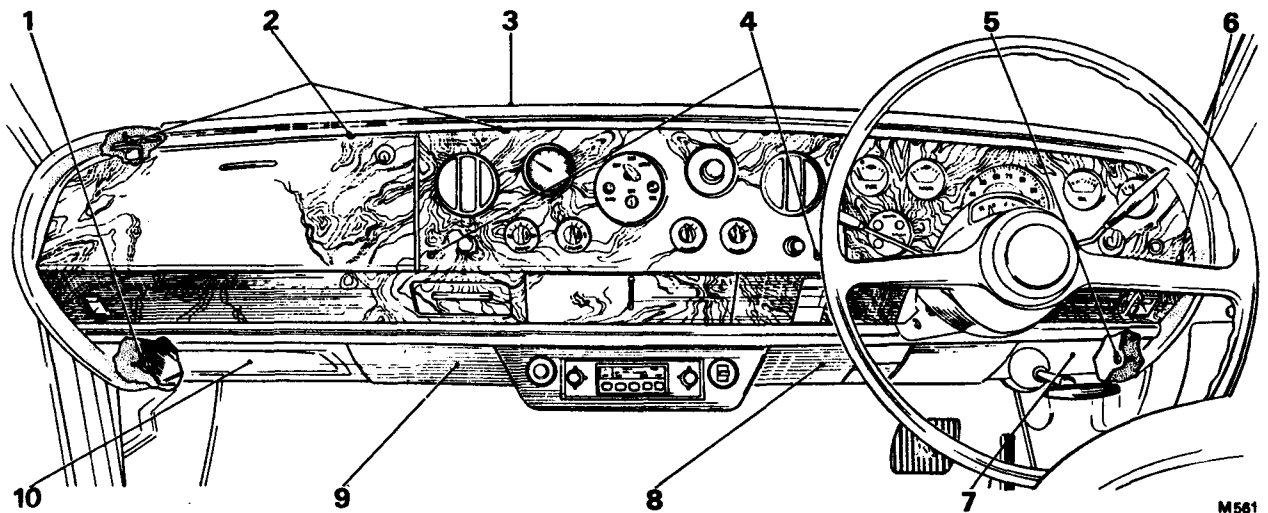

FIG. S107 VIEW OF TYPICAL FACIA TRIM (4-Door Saloon and Long Wheelbase Cars Prior to Car Serial Number 6001)
6.(a) Early cars (see Fig. S107). Remove the screws located under the protruding edge of the top roll.
- 3.(a) **Early cars not fitted with a front centre console** (see *Fig. S107*). Remove the radio receiver mounted below the facia (see *Chapter M—Electrical System*).
6. **On early cars not fitted with a centre console** (see *Fig. S107*), remove the screws securing the two sections of the polished wood facia; remove the facia.
10. **On early cars not fitted with a front centre console** (see *Fig. S107*), remove the two $\frac{7}{16}$ in. A/F nuts securing the lower edge of the instrument board to the mounting brackets; the nuts are situated under the lower edge of the facia behind the two outer lugs for the lower trim pads (see *Operation 4*).